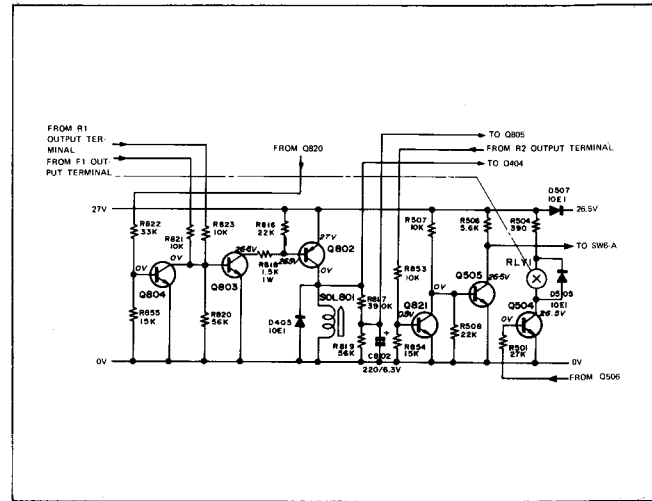

Figure 26
■ **PLUNGER DRIVE CIRCUIT (See Figure 26)**